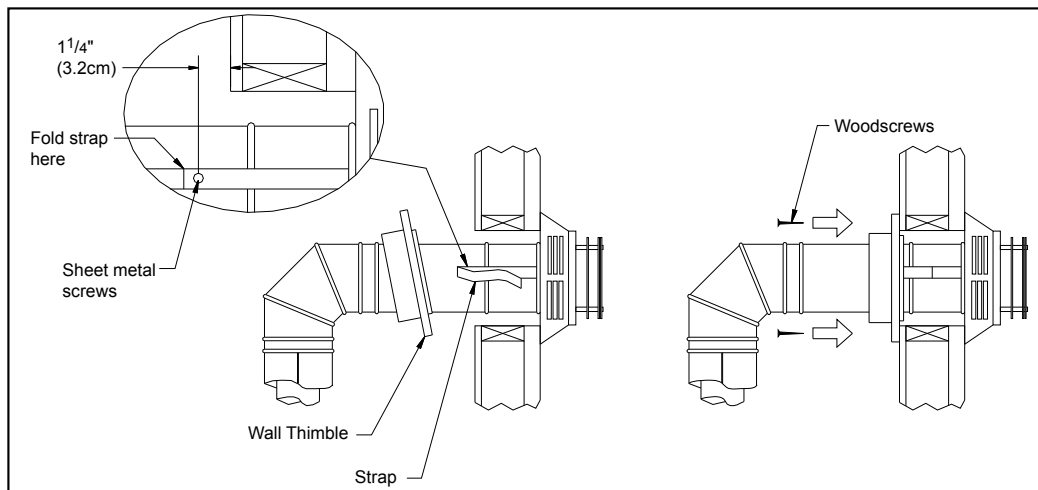

Figure 10: Installing Decorative Wall Thimble.
STEP 6. Slide the appliance and vent assembly towards the wall, carefully inserting the vent pipe into the cap assembly. It is important that the vent pipe extend into the vent cap a sufficient distance with a minimum of 1¼" (3.2 cm) overlap. Secure the connection between the vent cap pipe and the vent cap by attaching the two sheet metal straps extending from the vent cap assembly into the outer wall of the vent pipe. Use the two sheet metal screws provided to connect the straps to the vent pipe. Bend any remaining portion of the sheet metal straps back towards the vent cap, so the decorative wall thimble will conceal it (see left image in Figure 10).
STEP 7. Slide the decorative wall thimble up to the wall surface and attach with the screws provided. Apply decorative brass or chrome trim if desired (see right image in Figure 10).